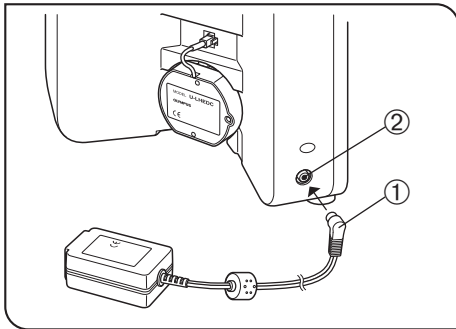

Fig. 40
## 8 Attaching the AC Adapter (Fig. 40)
- Make sure that the main switch is set to “○” (OFF) before connecting the power cord (Fig. 40).
1. Insert the connector ① of the AC adapter firmly into the connector ② on the microscope.